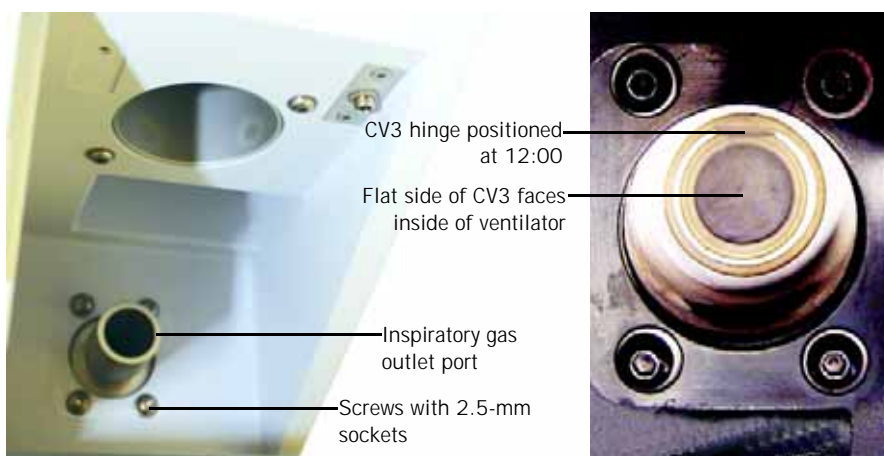

Figure 10-48: Inspiratory Outlet Port and Check Valve CV3 Orientation
8. Using a 2.5-in. hex driver, remove the four screws and washers that surround the inspiratory gas outlet port (Figure 10-48). Pull the outlet port from the inspiratory manifold.
6. Install the four screws and washers at the inspiratory outlet port (Figure 10-48), but do not tighten until the outlet port is installed and secured.